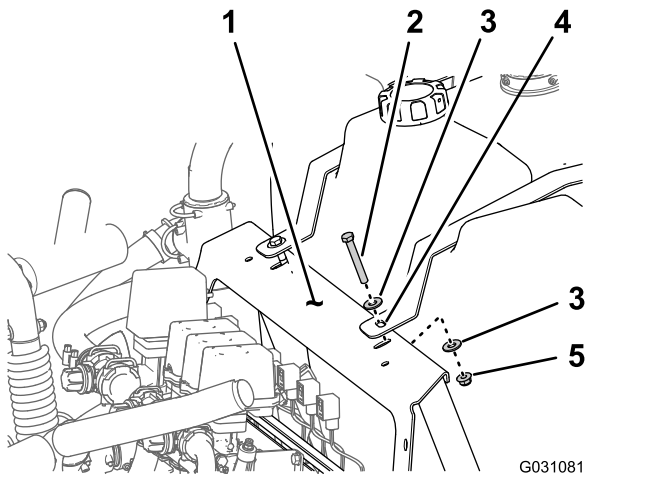

Figure 1
- C. Remove the 2 bolts (3/8 x 2-3/4 inches), 2 flange locknut (3/8 inch), and 4 washers (3/8 inch) that secure the straps for the rinse tank to the manifold mount (Figure 1).